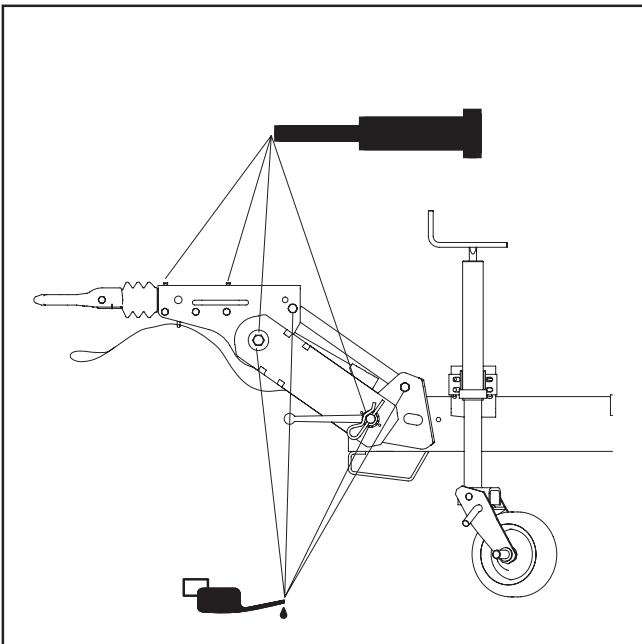

FIG.62
- Grease and oil all sliding surfaces and inert brake joints (FIG.62). Use DIN 51825 multipurpose grease.